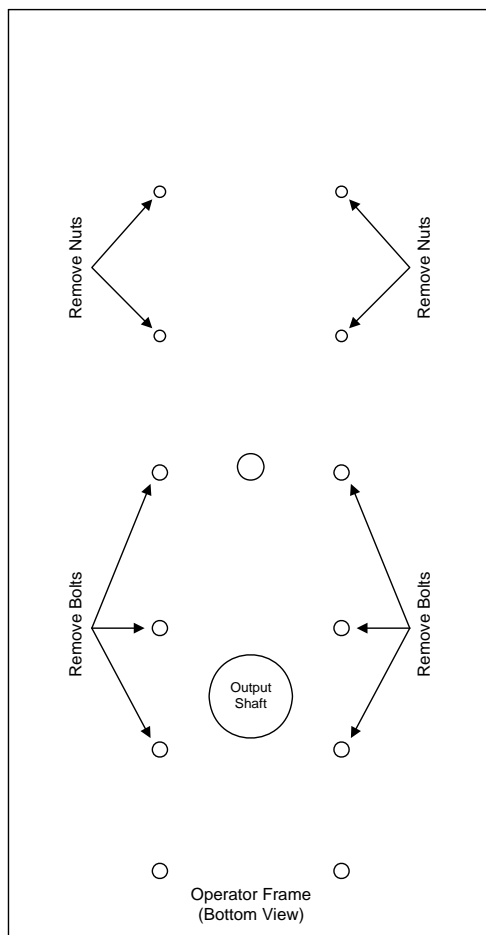

Figure 9
1. Place the operator on its side and remove 6 bolts and 4 nuts from the bottom frame (Figure 9).